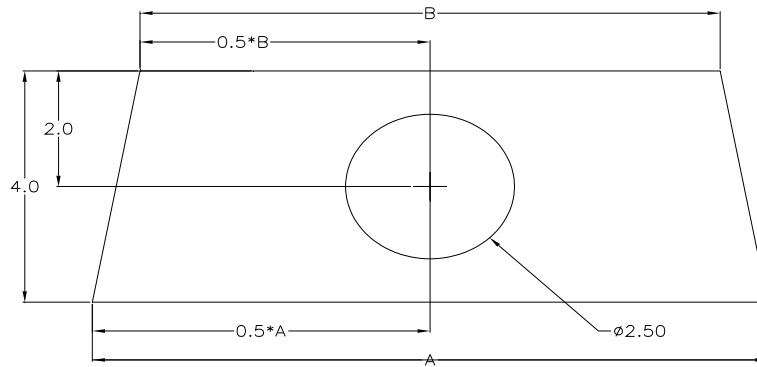

Figure A-21 Example Magnetometer Shelf
3. Measure the fuselage in multiple locations to determine the size of the shelf. The shelf will have an approximate trapezoidal shape and should have a depth of at least 4.0 in. Cut the shelf from 0.25 in. thick, 2-ply per side prepreg. Cut a 2.50 in. diameter hole in the center of the shelf, as shown in Figure A-21. Alternately, the 2.50 in. diameter hole can move left or right on the shelf, so long as there is adequate clearance to install or remove the magnetometer. By placing the hole in the center of the shelf, the elevator control tube can be used more effectively in a later step to align the GMU 22 Installation Rack with the aircraft's forward direction. Prepare for shelf installation by sanding, roughing up, and cleaning all bonding areas on the shelf and fuselage for best adhesion.